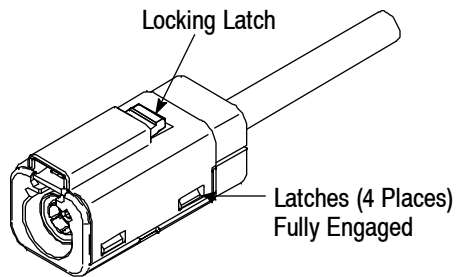

Figure 9
10. Depress the locking latch to make sure that it moves freely. See Figure 9. If the locking latch cannot be depressed, remove the lock and terminated subassembly from the housing, and repeat Steps 6 through 9.